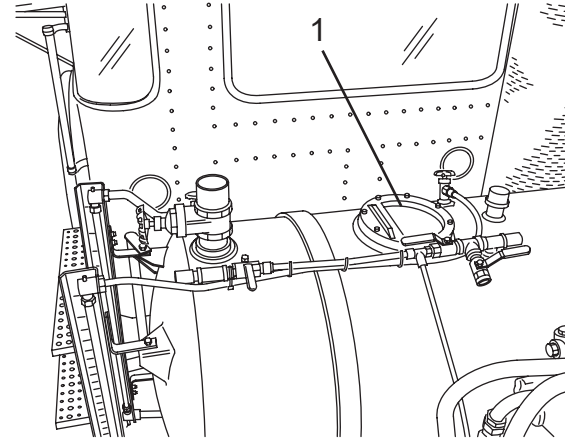

Figure 106
2. Place the water supply hose in the water tank flopper valve (Figure 106, Item 1).